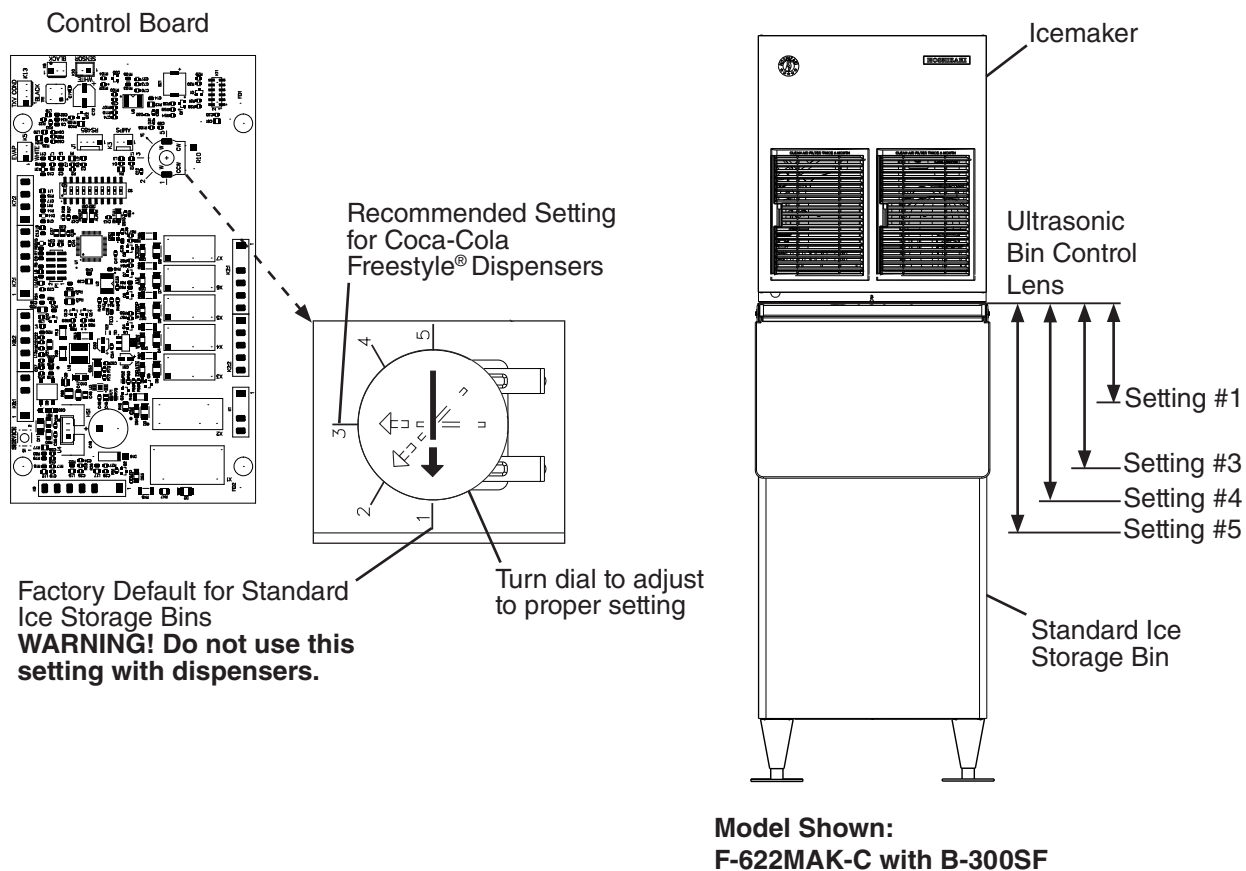
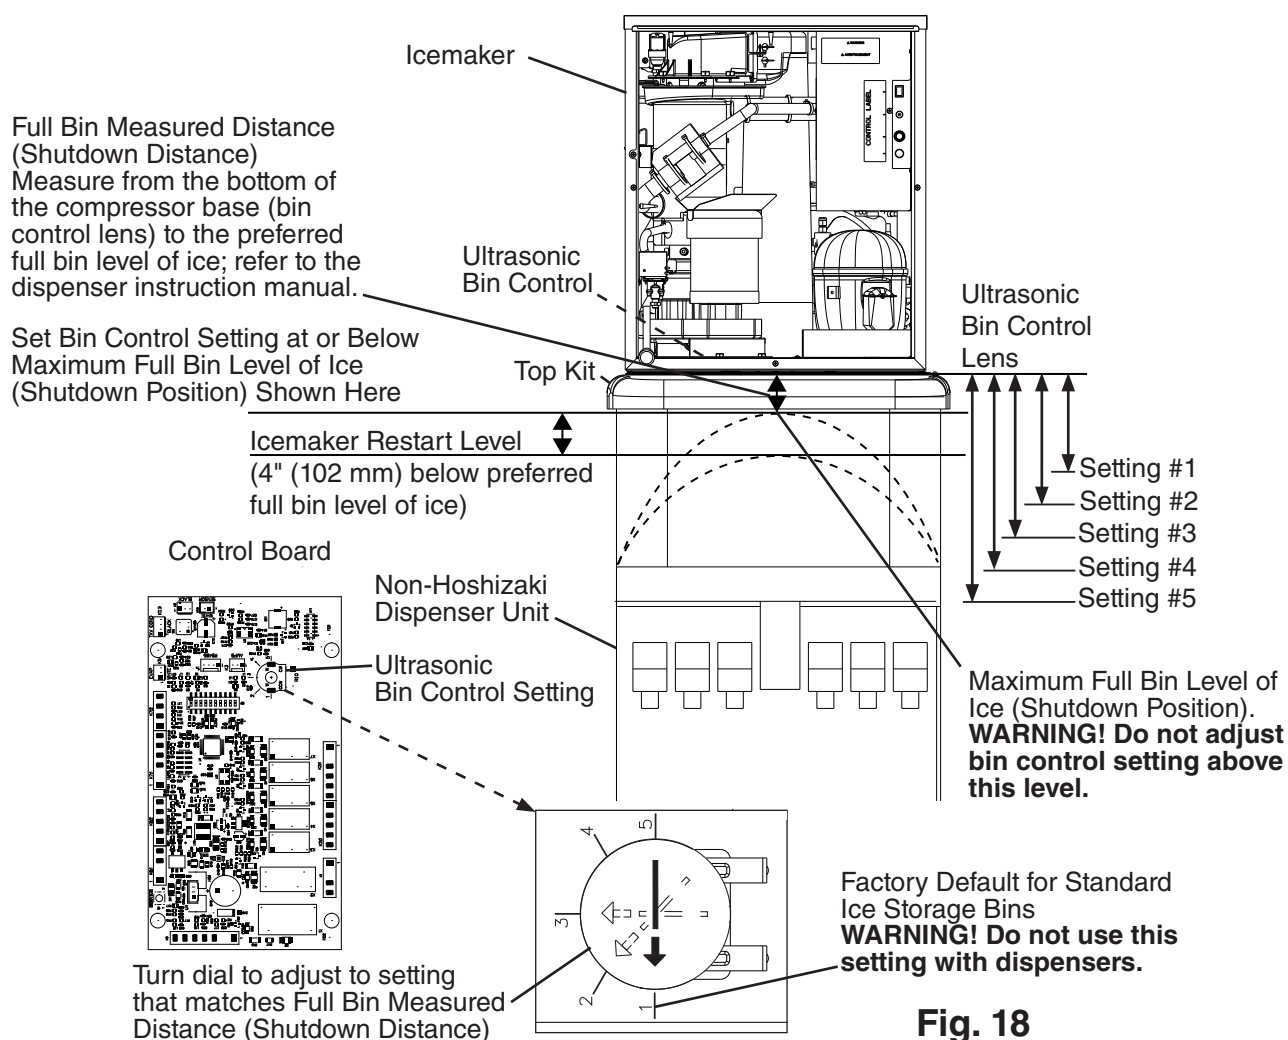

Fig. 17
Fig. 18
- 2) Confirm the correct control board bin control setting required for your application and adjust according to the following tables. See Fig. 17 and Fig. 18.
For Standard Ice Storage Bins and Coca-Cola Freestyle® Dispenser Units. See Fig 17
For Non-Hoshizaki Dispenser Units. See Fig. 18